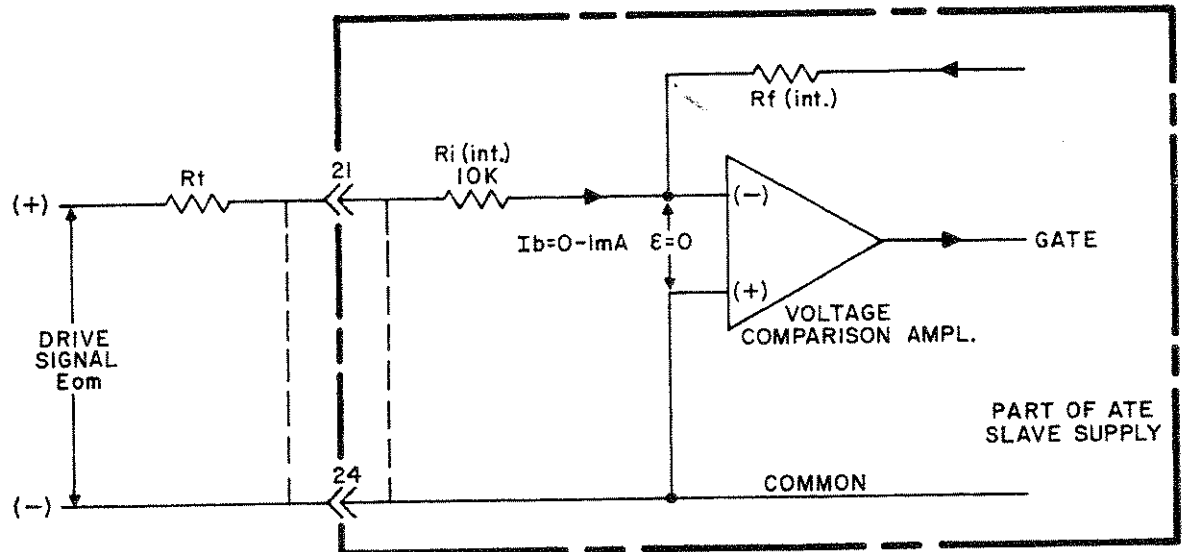

FIG. 3-21 DEVELOPING THE DRIVE FOR THE MASTER/SLAVE SERIES CONNECTION, ATE POWER SUPPLIES WITH RATED OUTPUT VOLTAGE  $> 6V$ .
- 3-98 As seen from the diagram (FIG. 3-21) in each SLAVE supply, the input to the VOLTAGE COMPARISON AMP is disconnected from the output of the VOLTAGE CONTROL amplifier and an external drive signal is derived from the output voltage of the MASTER supply ( $E_{om}$ ) and applied via a coupling resistor ( $R_t$ ), to the SLAVE supply.